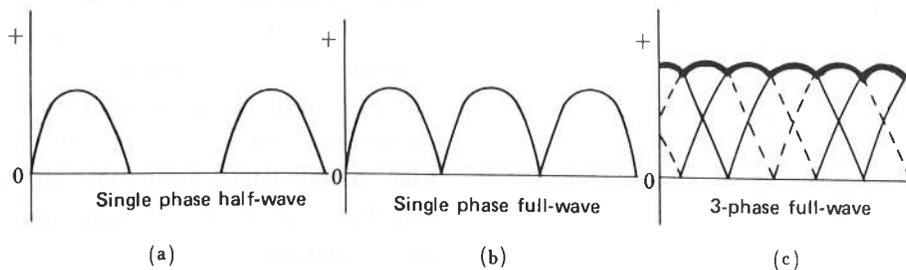

Fig. 1.5 Rectification Waveform
The stators are wound with conductors (C, C') and generate alternating current by rotating the rotor. The generated AC is rectified by the diode (D) into DC, which is then charged to the battery. If ordinary DC is rectified by the diode, it takes on various waveforms – depending upon the system as shown in Fig. 1.5. Tractor generators take on the waveform (C) since 3-phase AC undergoes full-wave rectification.